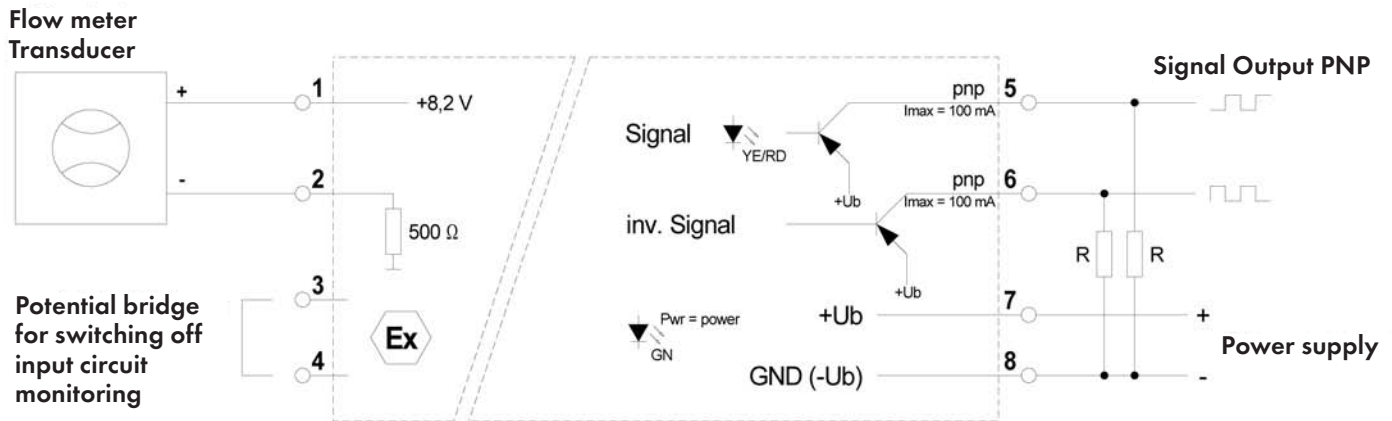
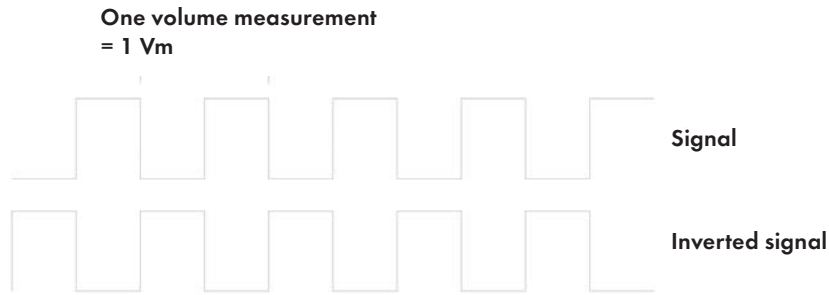

Figure 3: Circuit diagram of the isolation switching amplifier MK 13-P-Ex0/24VDC/K15
Figure 4: Signal output of the isolation switching amplifier
Usually the receiver only requires the standard generated signal (see Figure 3 and Figure 4), the inverted signal is processed only in exceptional cases. In the circuit diagrams, therefore, the inverted signal is shown only dashed. Therefore the inverted signal is.
**Please note that the signal output of the isolation switching amplifier is a PNP signal (low signal = open output; high Signal =  $U_b$ ). If the evaluation unit has high-impedance inputs, this could cause problems, especially at higher flow rates. The signal flanks slur and the analysing unit can no longer recognize digital signals. In this case, connect a pull-down resistor of approx. 2.2 ... 4.7 k  $\Omega$  parallel to the input of the evaluation unit (see Figure 3 resistor R).**
If the "wire jumper for input circuit monitoring" (see Figure 3) is switched, the monitoring is disabled.